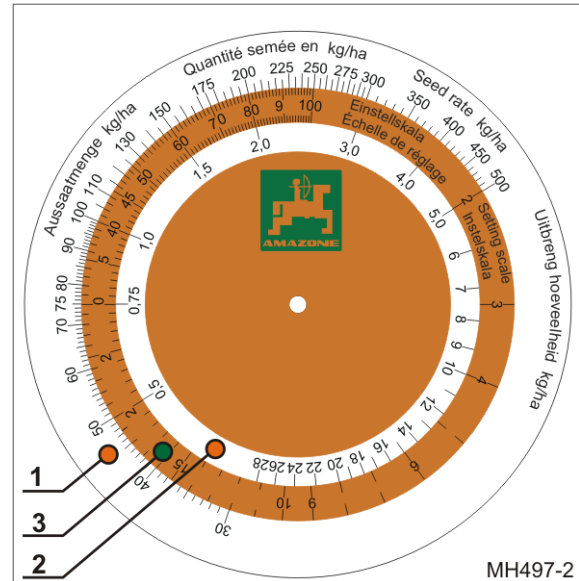

Fig. 70
- An outer white scale (Fig. 70/1) for all seeding rates above 30 kg/ha
- An inner white scale (Fig. 70/2) for all seeding rates below 30 kg/ha.
- A coloured scale (Fig. 70/3) with all gearbox settings from 1 to 100.
The calculating disc rule (Fig. 70) is not required for electronically regulated seed rate adjustment.